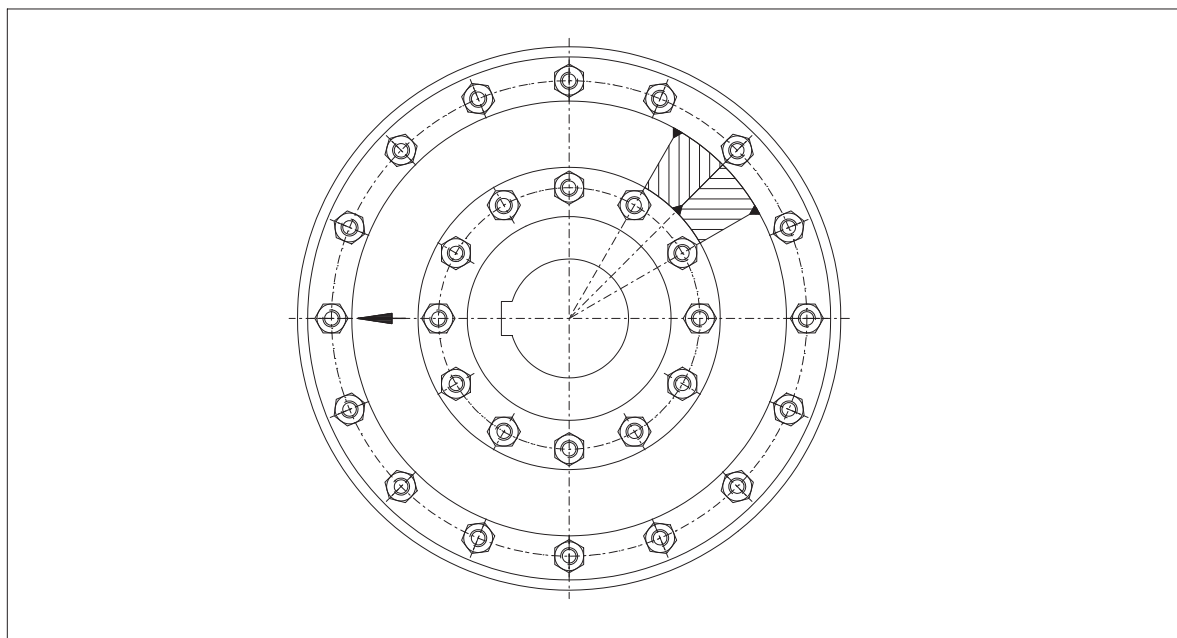

Fig. 9: Wear check
The functionality of the ELPEX coupling can be checked only by the torsional displacement between the in- and output side. Check that three triangles have been applied to the elastic ring (5) (see figure 9). If the inner triangle is inside the zone enclosed by the two outer triangles, the coupling is fully functional. As soon as the inner triangle is to the right or left of this zone, the elastic rings (5) must be replaced.